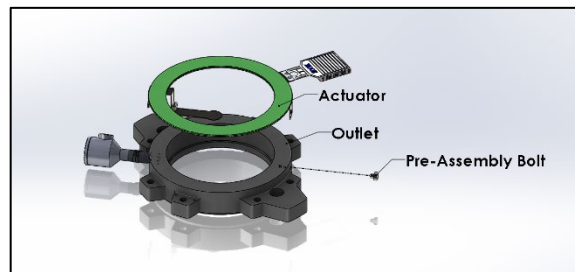

Figure 4 - Z-ALERT Assembly
- e) Place Actuator assembly on the Outlet gasket face with the actuator and magnet components oriented so that they are recessed into the Outlet (the Actuator and magnet should be near the disk). See Figure 4.
- e) Place Actuator assembly on the Outlet gasket face with the actuator and magnet components oriented so that they are recessed into the Outlet (the Actuator and magnet should be near the disk)(Figure 4).